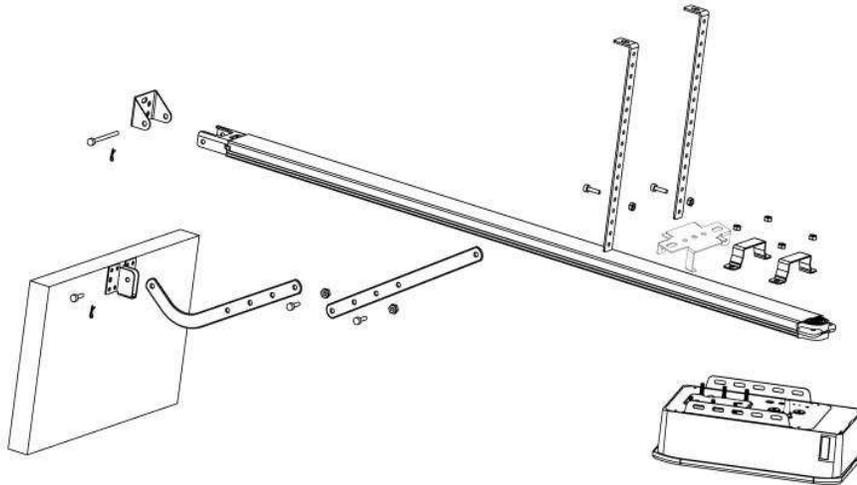

Figure 3 1.3)
STEP2 (Fig.3)
STEP3 (Fig.3, Fig.4)
STEP4 (Fig.3, Fig.5)